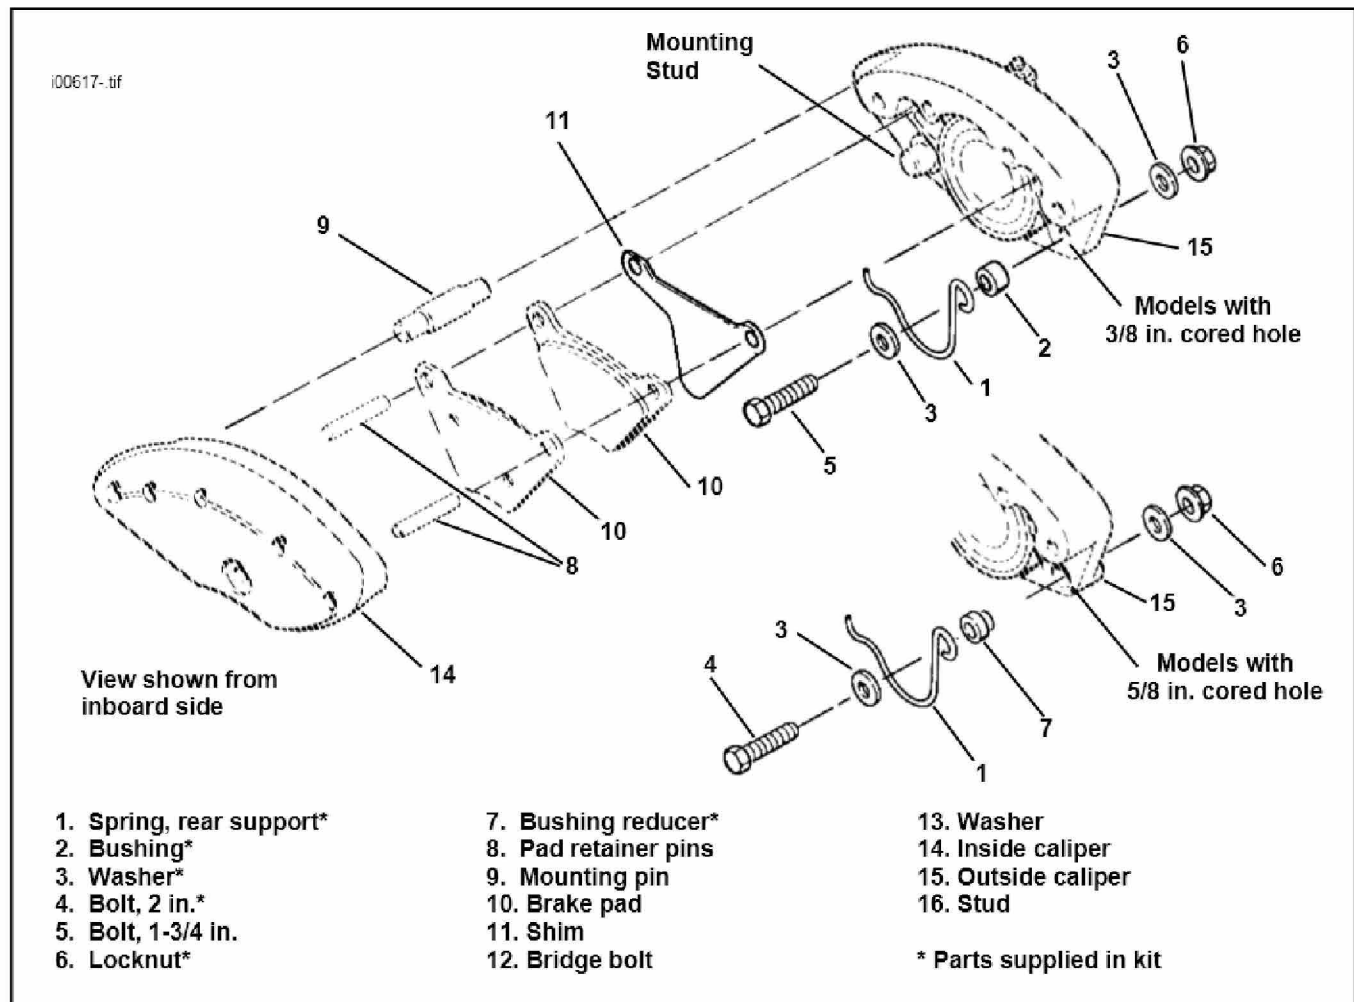

Figure 1. Front Brake Caliper--Exploded View
### Disassembly (Figure 1)
2. See Figure 1. Remove brake hose clamp located on fender. Work all slack in hose toward caliper.
3. Remove four bridge bolts and washers from caliper (15). Grasp inside caliper (14) and separate the caliper halves.
4. See Figure 1. Remove shim (11), brake pads (10) and pad retainer pins (8).
2. See Figure 1. If the brake caliper mounting stud appears to be worn and/or damaged, it must be replaced with CALIPER MOUNTING STUD KIT, Part No. 44331-73.
### Installation - Support Spring (Figure 1)
- Place mounting holes in second brake pad (10) over pad retainer pins (8) and position pad against brake disc. Mount shim (11) on pins (8) and move shim against backside of brake pad (10). Be sure the shim is installed as shown in Figure 1.
- Mount outside caliper (15) on pin (9) and work both caliper halves together. Be sure all pins are properly seated and both caliper halves butt together fully. If there is any gap, recheck Steps 1 through 5.